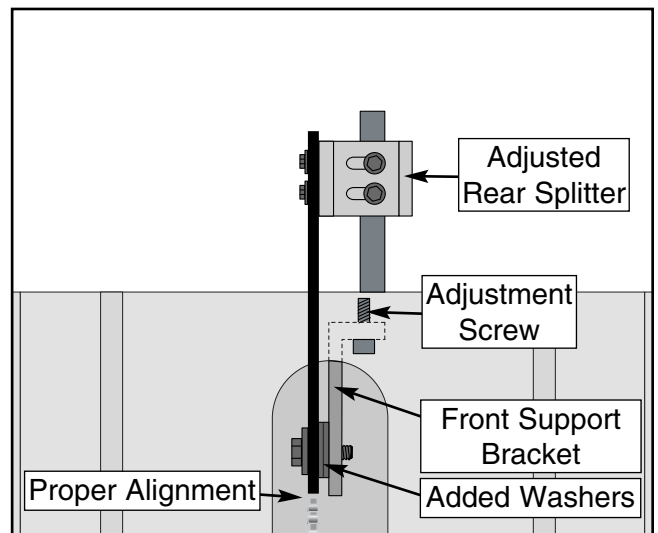

Figure 41. Proper splitter/blade alignment.
- If the splitter is positioned to the left of the blade, alignment cannot be achieved by washer placement. Adjustment of the front support bracket is required as shown in **Figure 41**. Loosen the adjustment screws and move the front support bracket to the right.